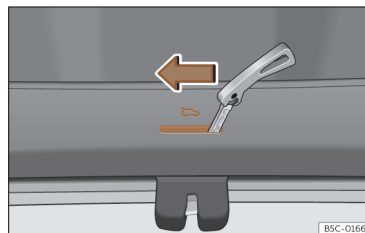

Fig. 79 Luggage compartment: manual release.
- Insert the key blade into the slot and move the key in the direction of the arrow until the lock unlocks >>> Fig. 79.